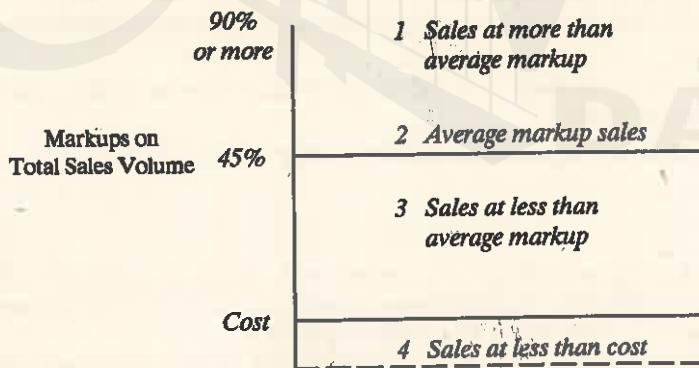

Fig. 31.9. Pricing Policy.
- Pricing policy can be expressed diagrammatically (refer Fig 31.9).
- Four distinct areas namely 1, 2, 3 and 4 can be seen in Fig. 31.9. A dynamic pricing policy demands that the seller must be aware of the aggregate sales volume in each area so that his overall total sales will average out to the markup necessary to provide desirable overall profits. Different products may sell in different areas, some at bigger profits, others at lesser profit but the overall position must not be less than average markup value.